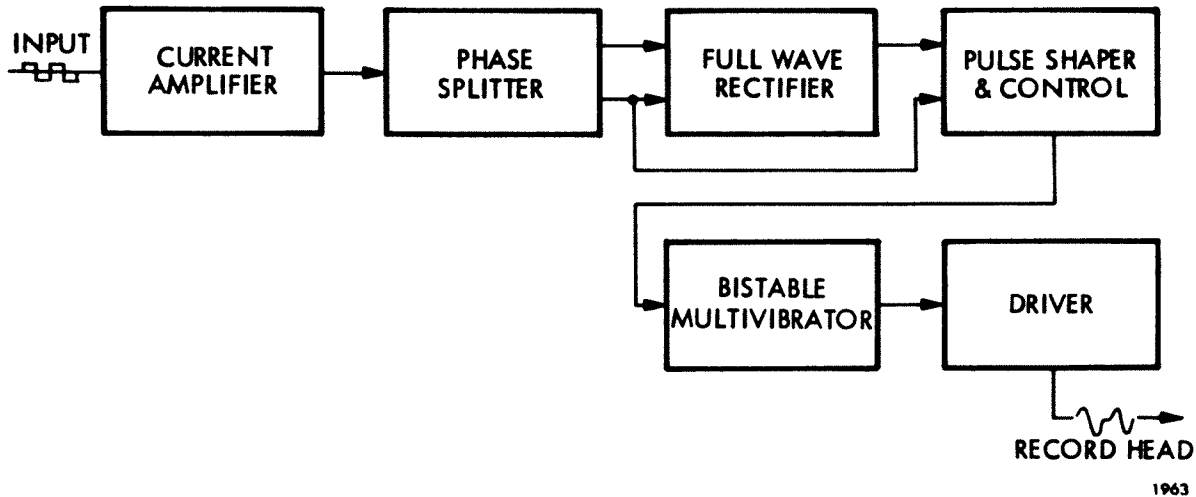

Figure 5-18 Block Diagram, PDM Record Amplifier
5.130 The circuitry of the PDM Record Amplifier consists of a current amplifier, phase splitter, full-wave rectifier, pulse shaper and control stage, bistable multivibrator, and driver. Figures 5-18 and 8-12 respectively show the block diagram and schematic of the PDM Record Amplifier. The operation of each circuit is discussed individually in subsequent paragraphs.